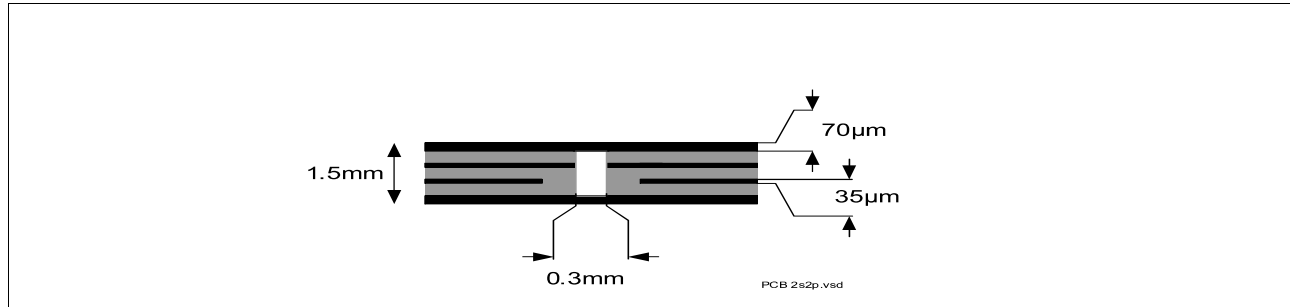

Figure 4 2s2p PCB Cross Section
2) Specified R_{thja} value is according to JEDEC JESD51-2,-5,-7 at natural convection on FR4 2s2p board; The product (chip + package) was simulated on a 76.4 x 114.3 x 1.5 mm board with 2 inner copper layers (2 x 70 μm Cu, 2 x 35 μm Cu). Where applicable, a thermal via array under the exposed pad contacts the first inner copper layer. Please refer to Figure 4.